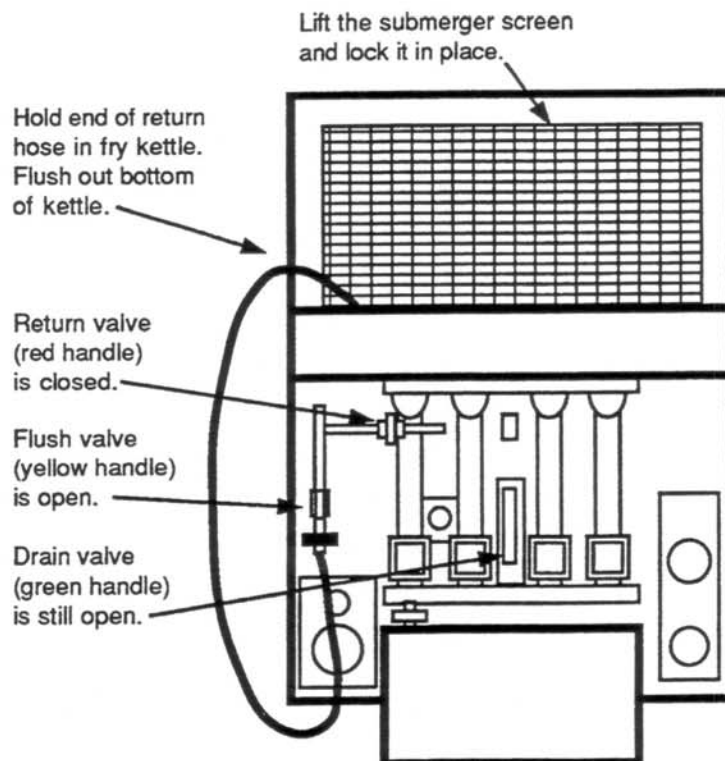

Fig. 20
10. Open the flush valve (yellow handle) as shown in Fig. 20.